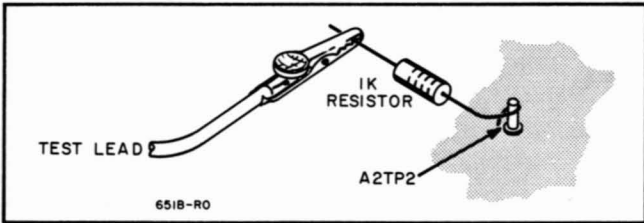

Figure 5-6. A2TP2 Test Lead Connection
- f. Attach a test to A2TP2, and isolate the test lead with a 1K resistor, as shown in Figure 5-6. Connect test lead so that test point voltage may be monitored with oscillator shield and bottom cover in place. Do not replace oscillator shield and bottom cover at this time.